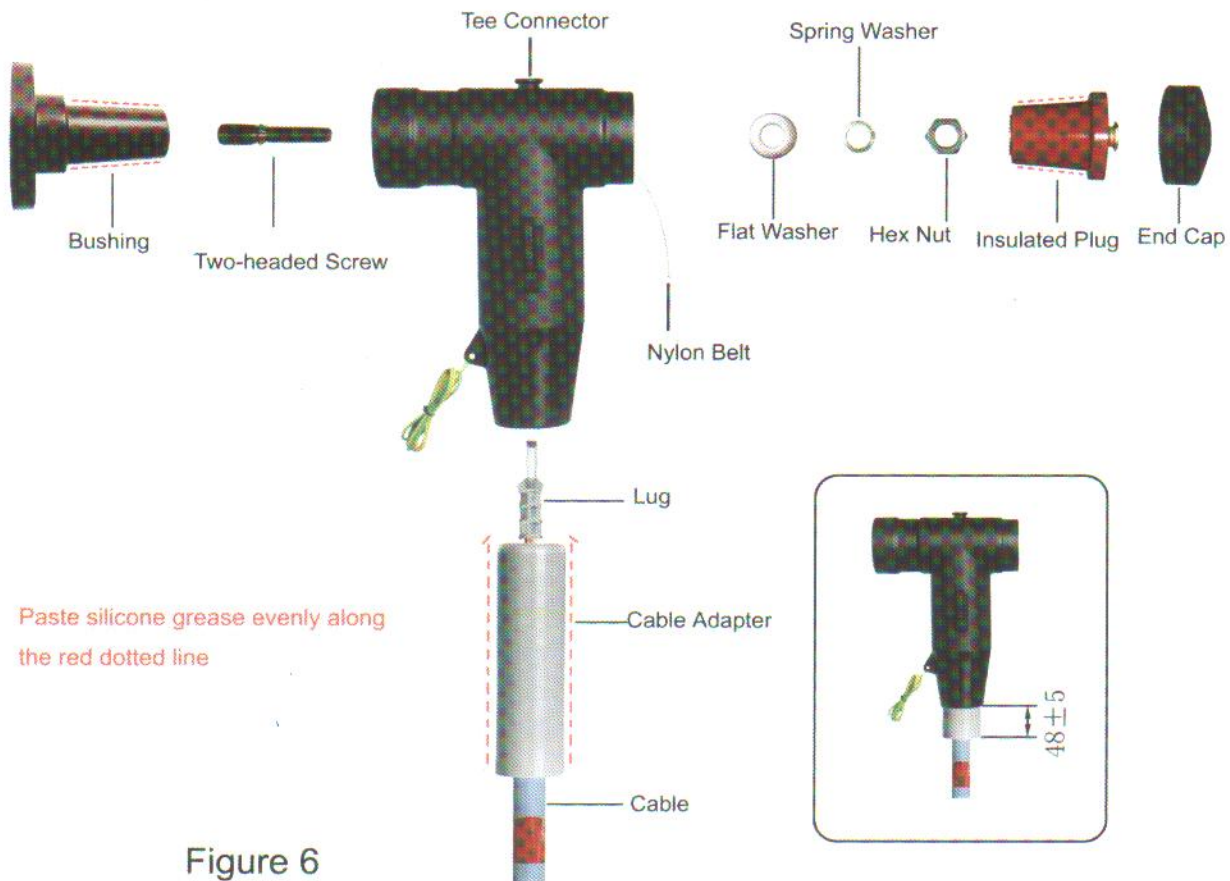

Figure 6
2.6. Installation of Tee Connector (Figure 6)